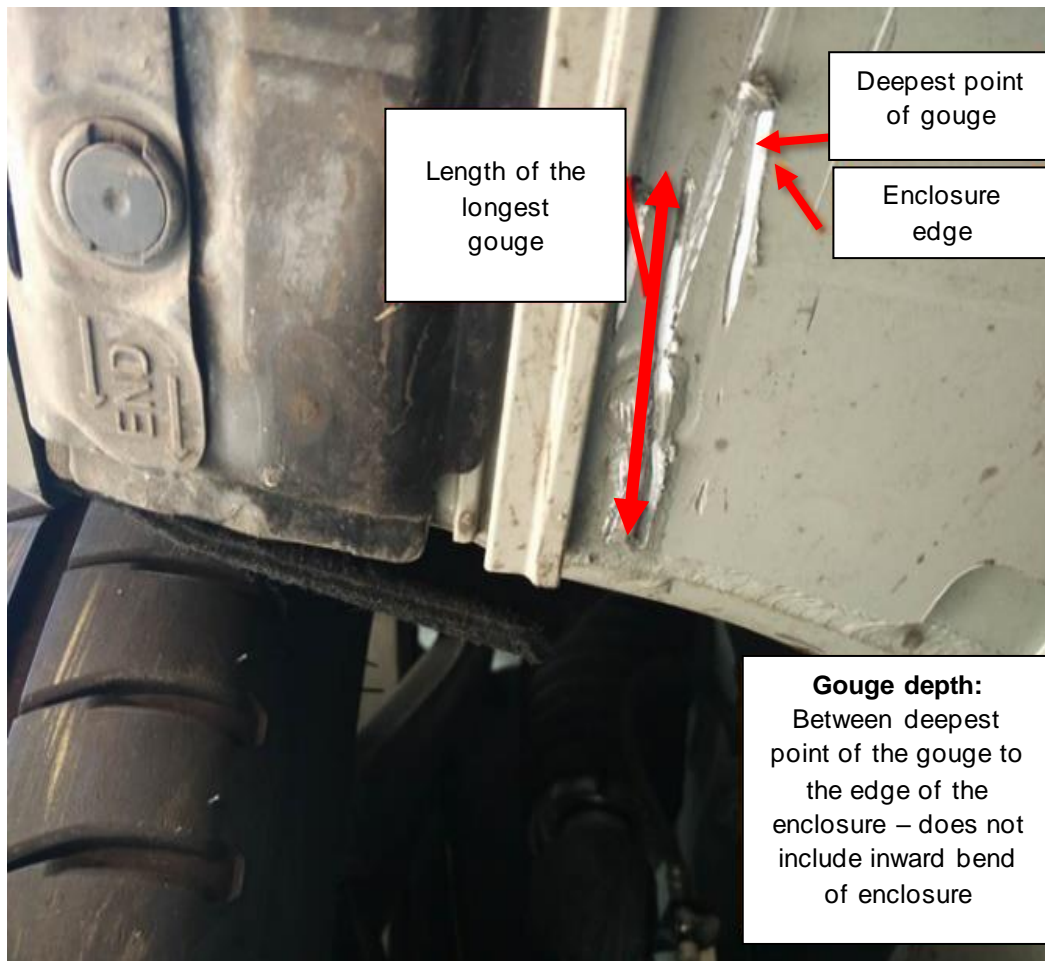

Figure 17 – Gouges in the baseplate
- A dent or deepest point of gouge is **5 mm** or more in depth (Figures 17 and 18) within the array baseplate zone.